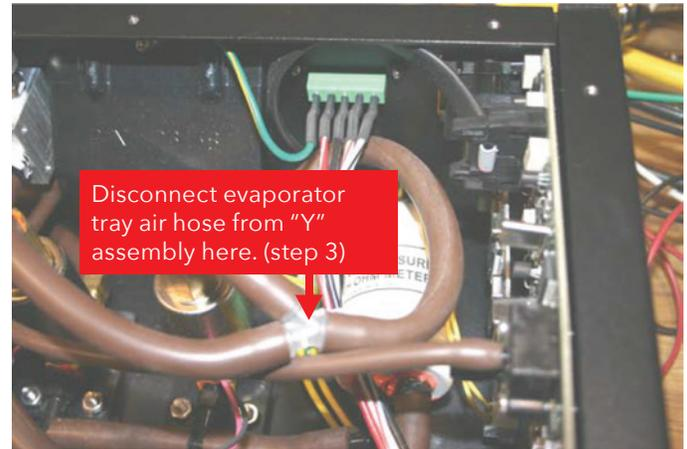
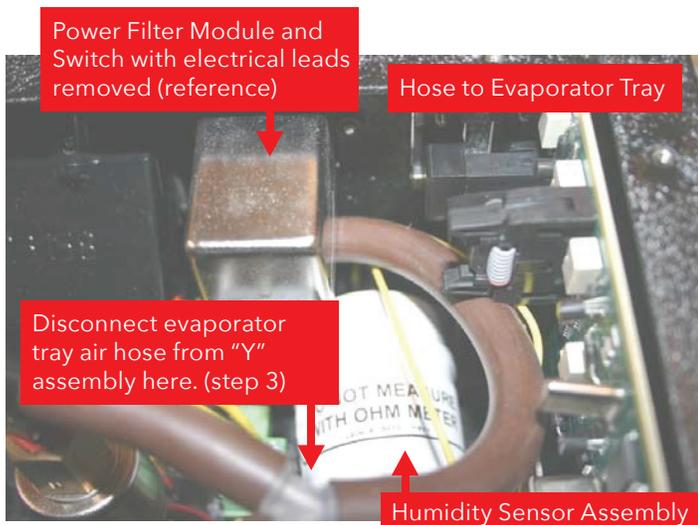

Figure 1b. THE ADH NETCOM AUTOMATIC AIRDEHYDRATOR HUMIDITY SENSOR ASSEMBLY IN A DC UNIT.
Figure 1a. THE ADH NETCOM AUTOMATIC AIR DEHYDRATOR HUMIDITY SENSOR ASSEMBLY IN AN AC UNIT.
On AC units, it might be useful to move the power filter module and switch assembly out of the way for better access to the humidity sensor during this procedure. Refer to Figure 1a. To do so, from the inside of the machine, after first noting their placement, carefully disconnect the three electrical leads from the filter module. Do not separate the leads from the spade lugs. Then, from the back of the machine, unscrew the two screws securing the power filter module to the machine chassis then gently push the power filter module toward the back of the dehydrator. It is not necessary to fully remove the power filter module.
To replace the Humidity Sensor Assembly (23368) in either an ADH NETCOM Automatic Air Dehydrator with AC power or an ADH NETCOM with Redundant DC power, perform the steps below. Refer to Figure 1a or 1b, respectively, for AC and DC unit illustrations.
1. Shut off AC unit power by placing the power switch in the OFF (O) position. Unplug the power cord. Shut off DC unit power by shutting off the external power supply. If possible, move the unit to a work table.
3. Using a tubing wrench or vacuum tubing pliers, carefully disconnect from the "Y" hose assembly the length of hose running between the "Y" assembly and the evaporator tray. Refer back to Figure 1a for AC units and Figure 1b for DC units.